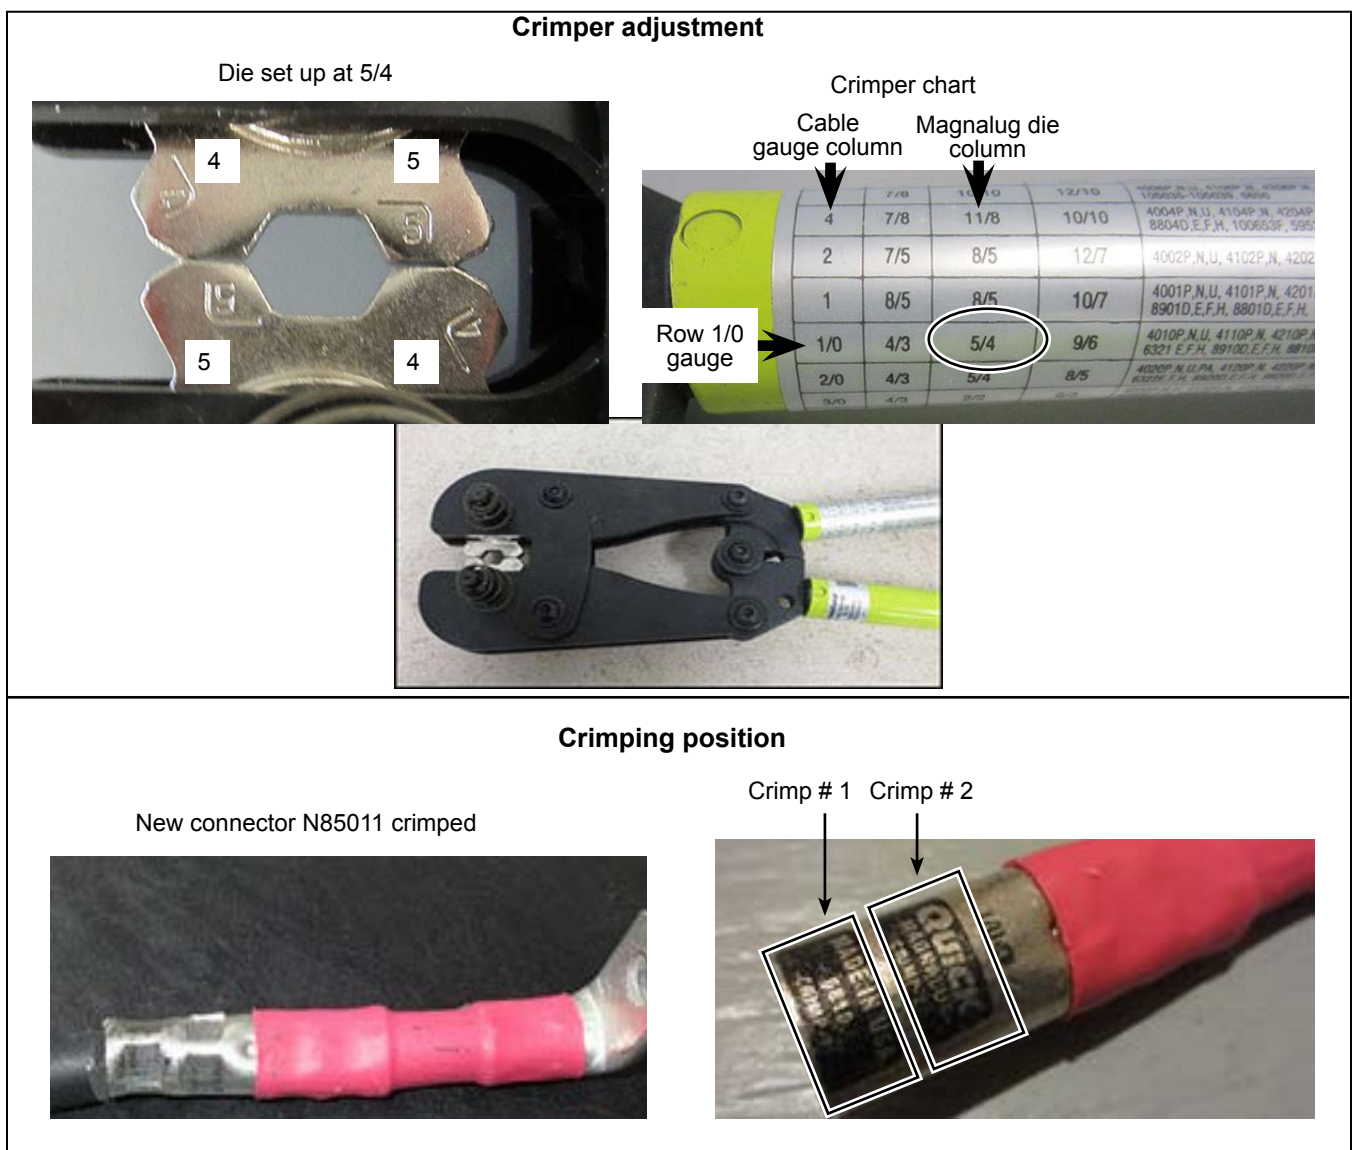

Figure 4 - Crimper Adjustment and Crimping Positions
- 1.11. Insert the new connector N85011 on the exposed strand portion of the cable. The tip of the strand should touch the edge portion of the new connector and there should be no space between the end of the connector and the outer sheath of the cable. See Figure 4.
- 1.12. Crimp the new connector twice, making distinct, non-aligned crimps, using a Quick Connect crimping tool 4255R or the equivalent set at 5/4 (row 1/0 gage of cable ga., column Magnalugs HD lug). See Figure 4.